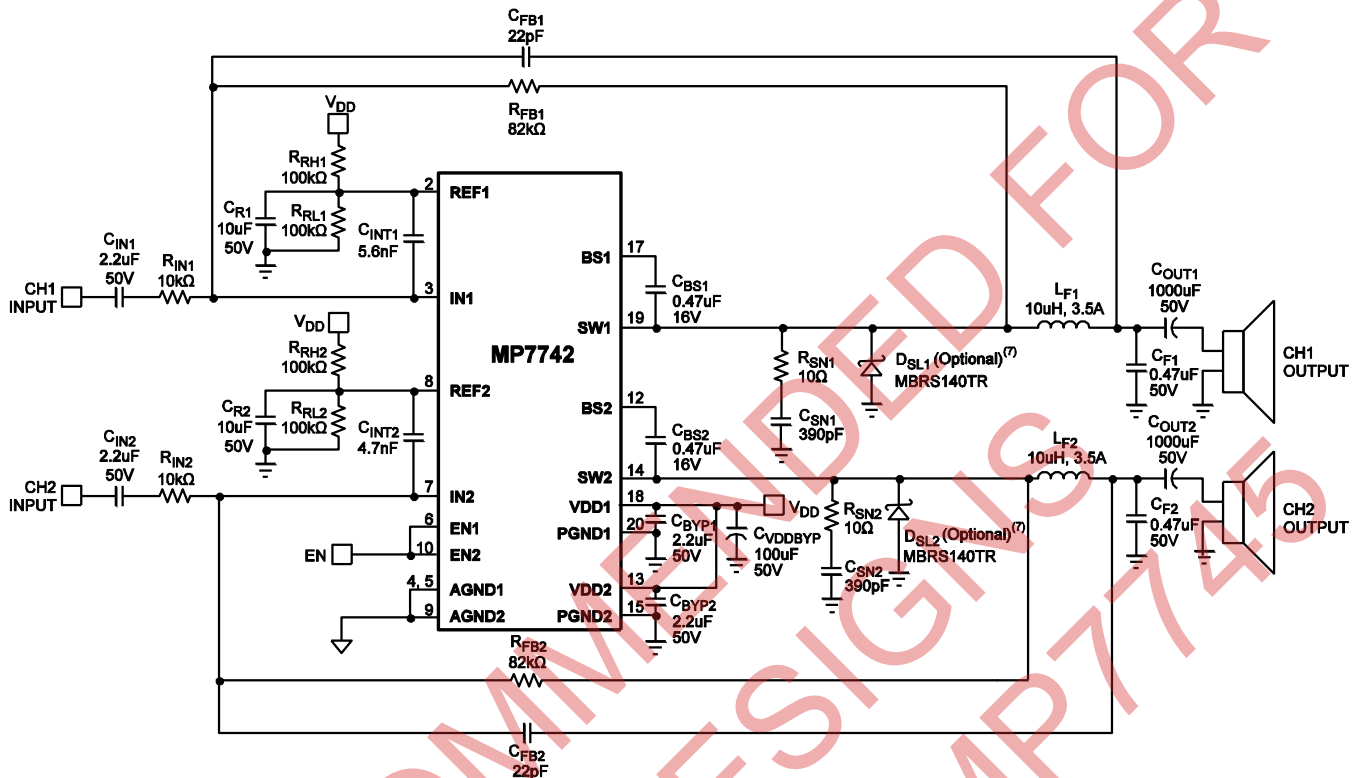

Figure 1—2 x 15W Stereo Typical Application Circuit
Circuit of Figure 1,  $V_{DD}=24V$ ,  $V_{EN}=5V$ ,  $T_A = +25^{\circ}C$ , unless otherwise noted.
The MP7742 uses a minimum number of external components to complete a stereo Class D audio amplifier. The circuit of Figure 1 is optimized for a 24V power supply. This circuit should be suitable for most applications. However, if this circuit is not suitable, use the following sections to determine how to customize the amplifier for a particular application.
**Table 1—Switching Frequency vs.  $V_{DD}$ , Timing Capacitor and Feedback Resistor (see Figure 1)**
The Inductor-Capacitor (LC) filter converts the pulse train at SW to the output voltage that drives the speaker. Typical values for the LC filter are shown in Figure 1, 10 $\mu$ H inductor and 0.47 $\mu$ F capacitor.